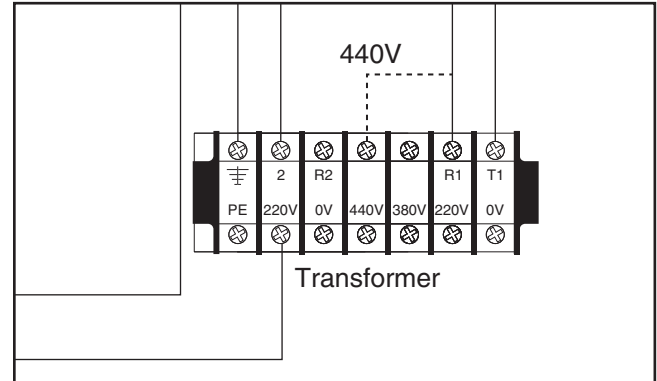

Figure 5. Rewiring the transform for 440V operation.
3. Move the wire that is connected to the R1 terminal on the transformer to the one above the 440V terminal, as illustrated in **Figure 5**.